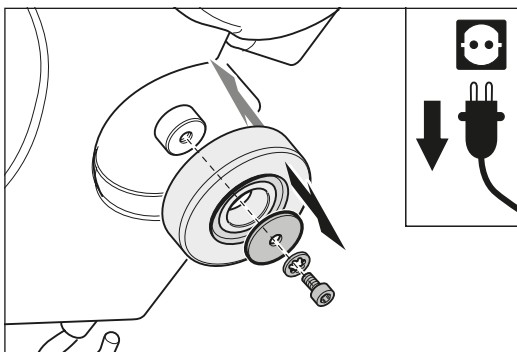
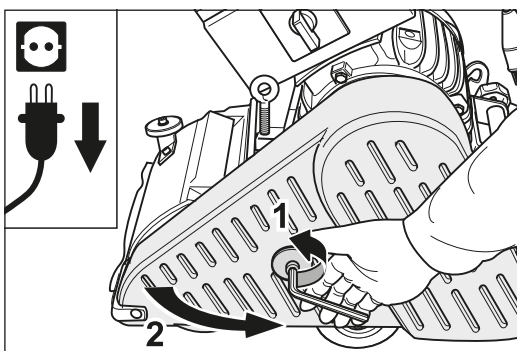

Fig. 84 Remove the screw and washers in the center of the lateral wheel and remove the lateral wheel. Assemble the new wheel in reverse order.
Fig. 85 Pull the power plug out of the socket and open the belt guard.
- 4 Release the screw in the center of the lateral wheel and remove the screw and washers (fig. 84). Before removing the **left** lateral wheel open the belt guard (fig. 85).
- 3 Open the belt guard (fig. 85).